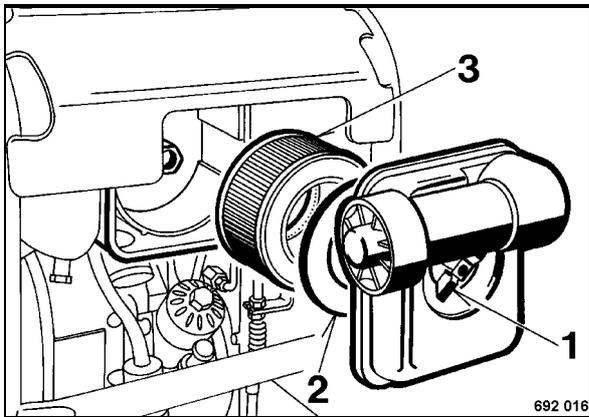

Fig. 54
- Slacken the wing nut 1 (Fig. 54) and take the cover with the covering disc (2) and the air filter insert (3) off.